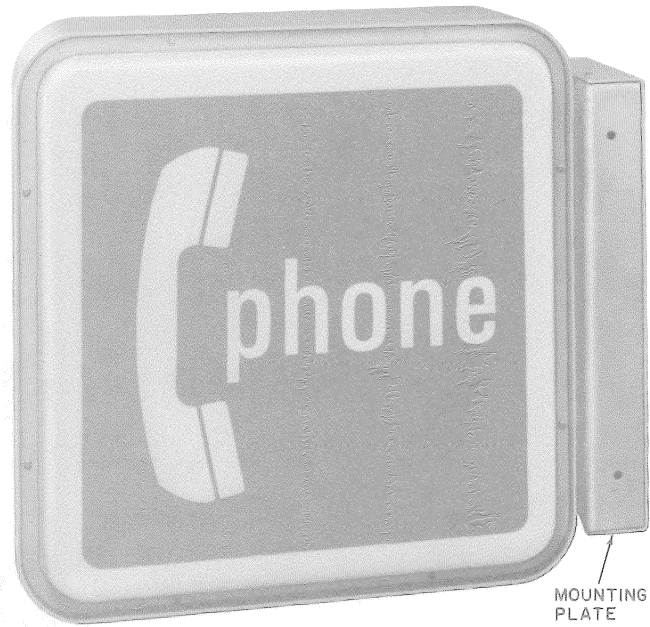

Fig. 25—KS-20135, List 3 (Telephone, High Security)
5.10 The KS-20135, List 3 sign is furnished with a mounting plate for assembly to the mast of the KS-20842 mounting (Telephone, High Security, Fig. 25). This mounting has nylon locking, self-retaining nuts for security and ease of attachment.